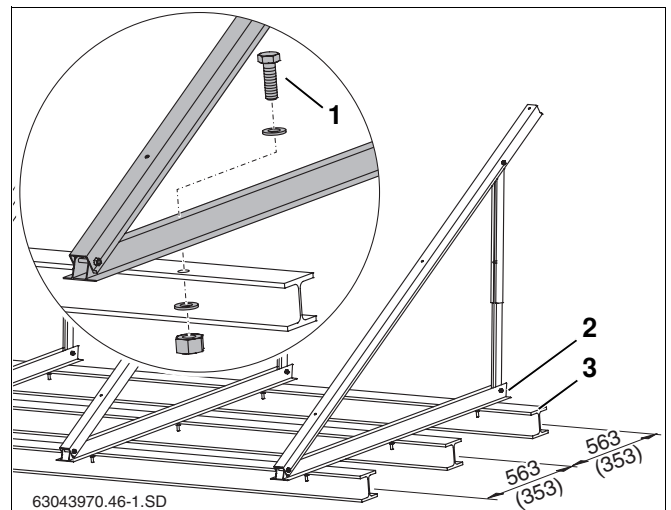

Fig. 26 Flat roof support on girders, dimensions in mm (value in brackets = landscape version)
You can fasten the flat roof supports with anchor bolts. As an example, we describe fastening onto girders (Fig. 26, **Item 3**).
- Transfer the lower profile hole clearances (Fig. 26, **Item 2**) onto the girders, and drill the corresponding holes.
- Insert screws (see Tab. 8 and Fig. 26, **Item 1**) through the profiles and girders and screw tight with nuts and washers.